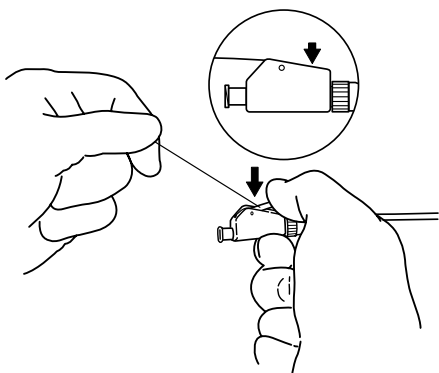

Fig. 2
- b. While maintaining traction on the suture, push the locking cam lever down until a distinct “snap” is felt. The distal loop of the stent is now locked into position. (**Fig. 2**)